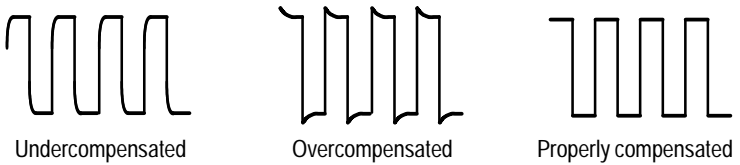

Figure 4: Probe compensation waveforms
4. Adjust the trimmer in the probe until you see a perfectly flat-top square wave on the display. See Figure 4.